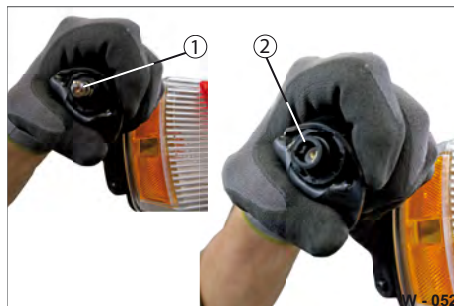

Fig. 60 Replacing the lamp
- Unscrew the defective lamp (Fig. 60/1).